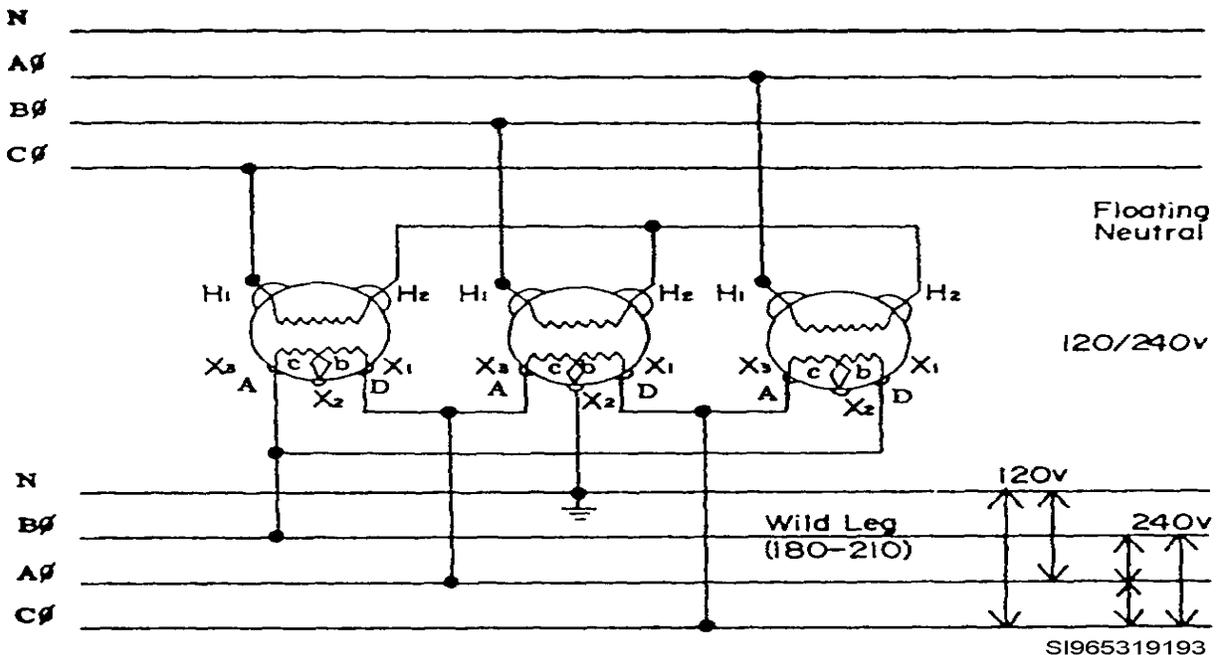

Figure 8, Wye/Delta Connection
Step 14: Primary Connection for Wye/Delta as seen in Figure 8 above.
Step 15: Secondary Connection for Wye/Delta as seen in Figure 8 above.